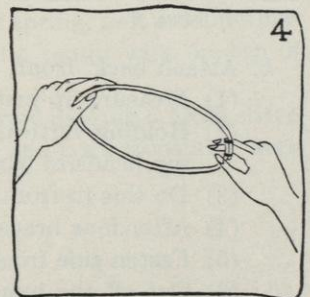

FIG. 4.
- Pull the headsize wire slightly oval (see Figure 4).